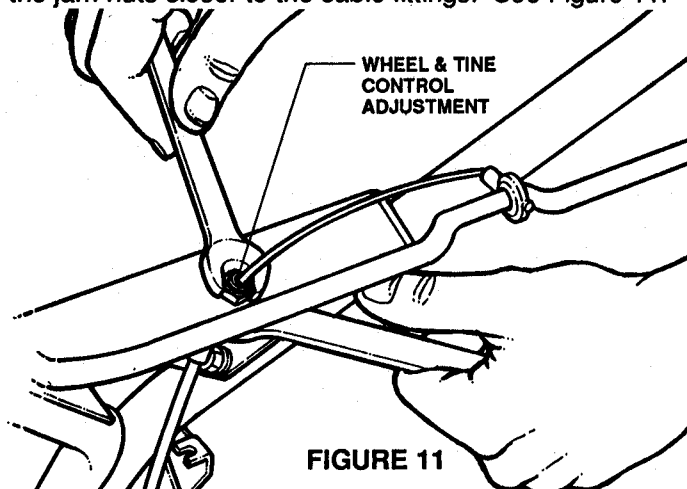

FIGURE 11
**BELT TENSION ADJUSTMENT:** To check, remove L.H. wheel and drive belt guard. Measure the length of the **IDLER PULLEY SPRING** at the end of the control cable. Move the **WHEEL & TINE CONTROL** up to the handle bar and measure the extended length of the spring. When properly adjusted, the spring should extend 1/4" to 1/2" when **WHEEL & TINE CONTROL** is engaged. If adjustment is required, loosen and reposition the jam-nuts on the threaded ends of the cable conduits. To increase spring extension, turn the jam-nuts closer to the cable fittings. See Figure 11.